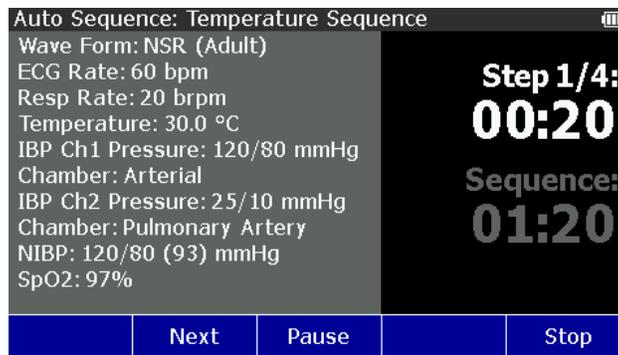

Figure 48. Autosequence Step Screen
5. Push the **Start** softkey. The autosequence screen in Figure 48 shows in the display.